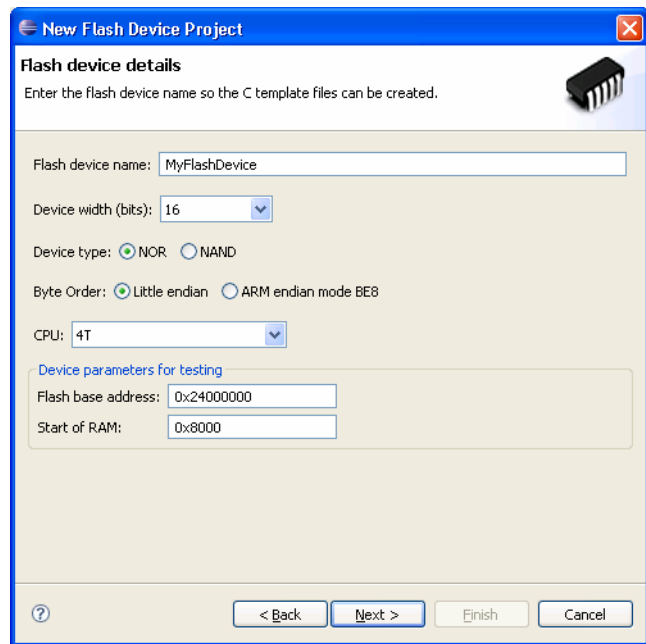

Figure 2 Configuring a new flash project
6. Enter the base address of your flash device and the start address of RAM on your target hardware (see Figure 2 on page 10). These values are used during testing and debugging of your flash algorithm. Values may be entered in decimal or hexadecimal (prefixed with '0x'). Click **Next**.